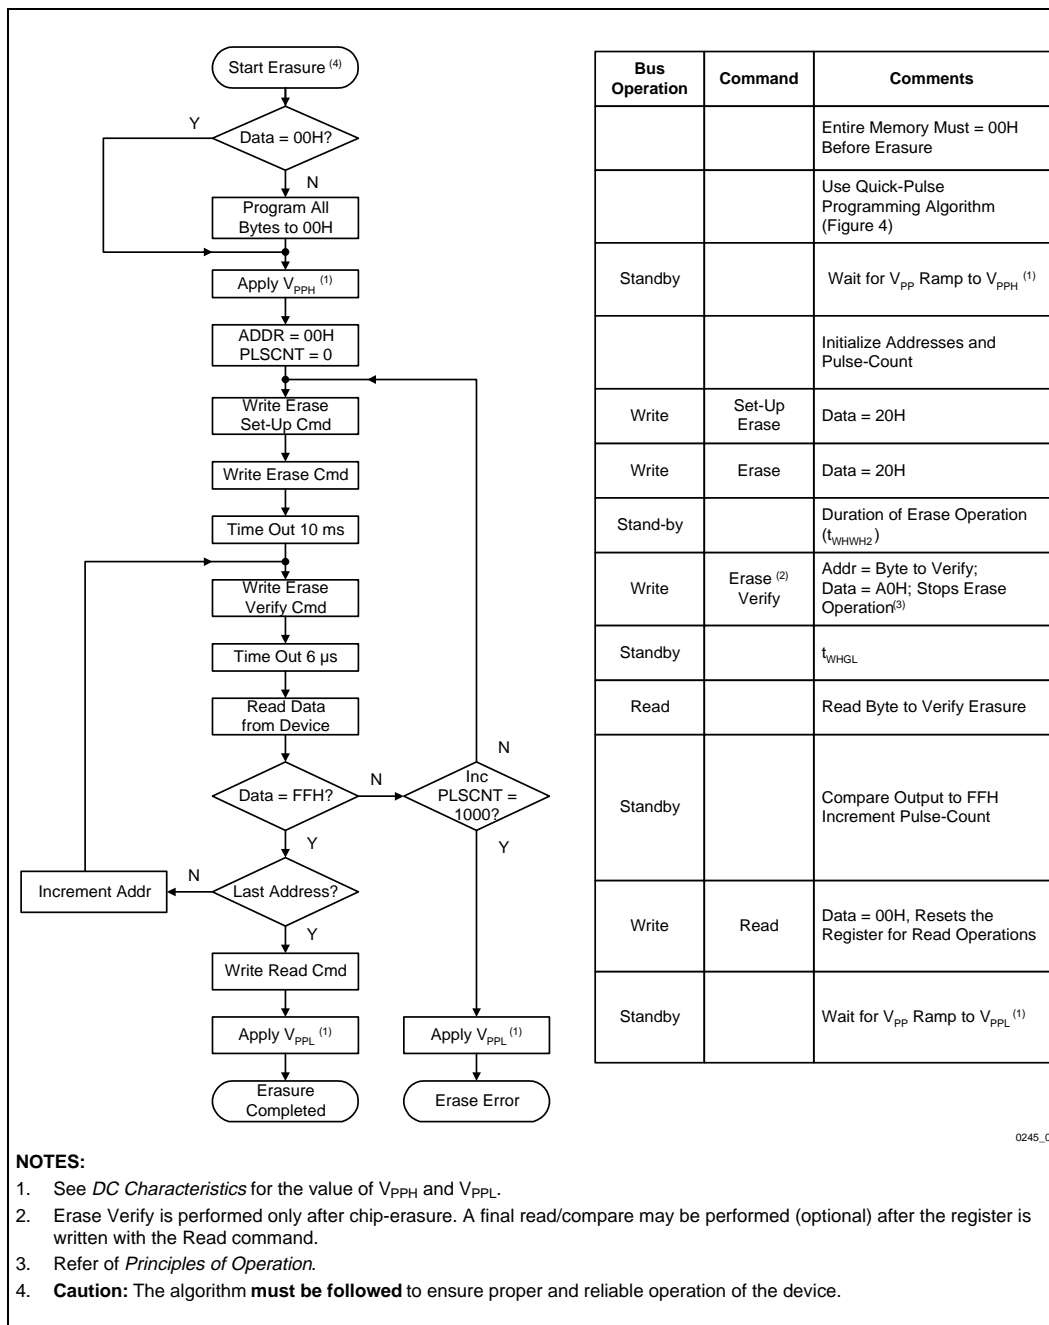

Figure 5. 28F020 Quick-Erase Algorithm
- Figure 5 illustrates the *28F020 Quick-Erase Algorithm* flowchart.
In the case where the data read is not FFH, another erase operation is performed. (Refer to Section 2.2.2.3, *Set-Up Erase/Erase Commands*.) Verification then resumes from the address of the last verified byte. Once all bytes in the array have been verified, the erase step is complete. The device can be programmed. At this point, the verify operation is terminated by writing a valid command (e.g., Program Set-Up) to the command register. Figure 5, the *28F020 Quick-Erase Algorithm* flowchart, illustrates how commands and bus operations are combined to perform electrical erasure of the 28F020. Refer to *AC Characteristics—Write/Erase/Program Only Operations* and waveforms for specific timing parameters.
Erase execution then continues with an initial erase operation. Erase verification (data = FFH) begins at address 0000H and continues through the array to the last address, or until data other than FFH is encountered. With each erase operation, an increasing number of bytes verify to the erased state. Erase efficiency may be improved by storing the address of the last byte verified in a register. Following the next erase operation, verification starts at that stored address location. Erasure typically occurs in two seconds. Figure 5 illustrates the *28F020 Quick-Erase Algorithm* flowchart.